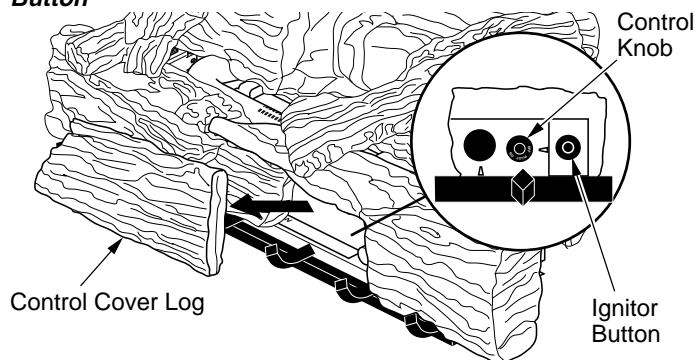

Figure 26 - Control Knob (Shown in the OFF Position) and Ignitor Button Location
3. Remove control cover log (see Figure 26).
13. Replace control cover log (see Figure 26, page 15).